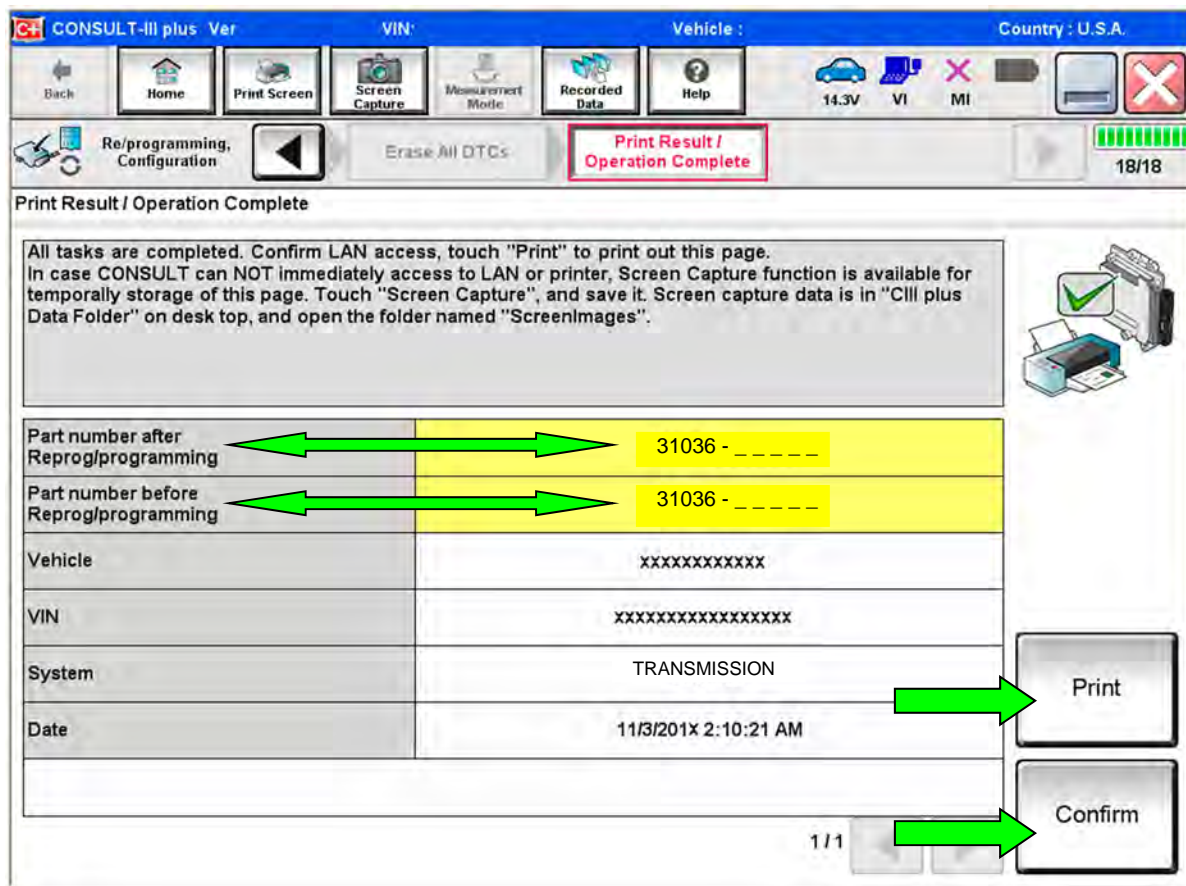

Figure 39
36. When the entire reprogramming process is complete, the screen in Figure 39 will display.
38. Print a copy of this screen (Figure 39) and attach it to the repair order for warranty documentation.